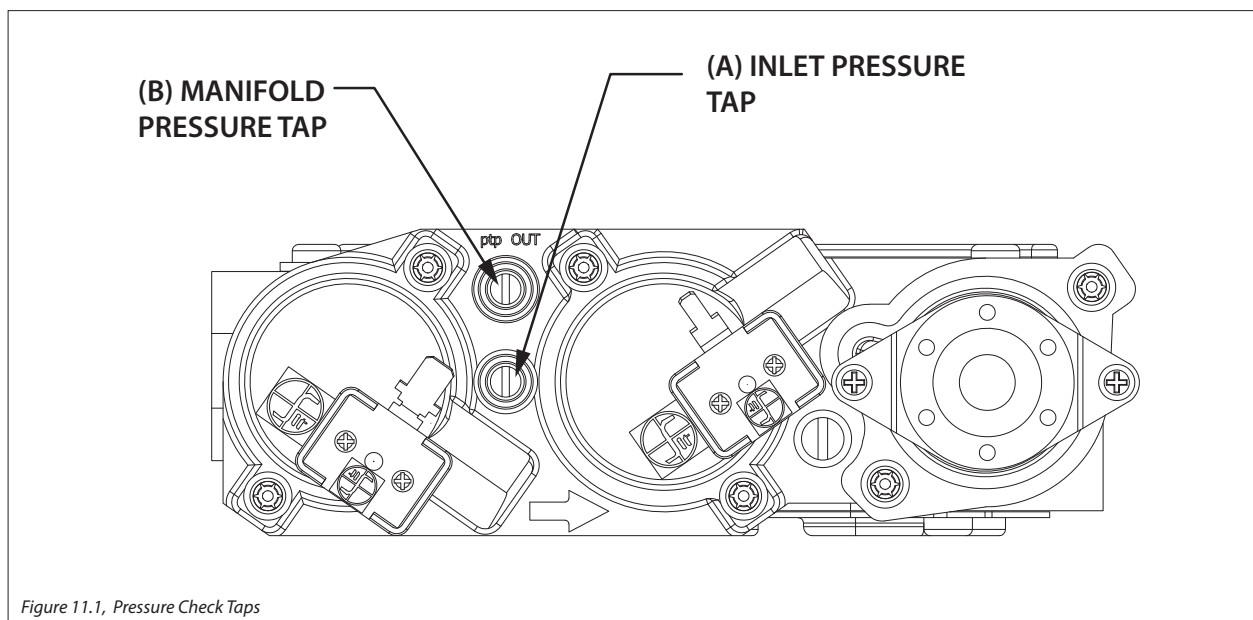

Figure 11.1, Pressure Check Taps
1. Loosen the inlet (IN) pressure tap by turning screw counter-clockwise. See (A) in Figure 11.1.
5. Disconnect hose and tighten the inlet (IN) pressure tap by turning screw clockwise. Screw should be snug. Do not over tighten.
6. Relight pilot and burner. Then reattach manometer to the inlet pressure tap (A) to verify the tap is completely sealed. Manometer should read no pressure.
2. Loosen manifold (OUT) pressure tap by turning screw counter-clockwise. See (B) in Figure 11.1.
7. Attach the manometer to the manifold pressure tap (B) to verify it is completely sealed. The manometer should read no pressure when pilot and burner are on.